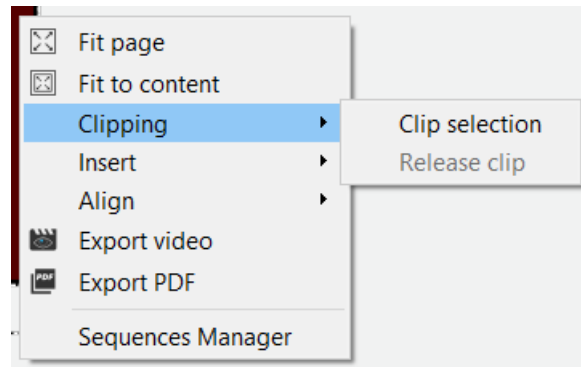

Figure 18.26: The context menu for clipping.
- Using the ellipse or rectangle drawing tool, easily clip any *iris* objects simply by drawing a shape over the area within the object to be clipped, selecting the objects and the drawn shape, and then pressing “C” on the keyboard. Selecting any clipped objects and pressing shift + “C” will unclip the objects. Objects can also be clipped by using the context menu shown in Fig. 18.26 when right clicking on two selected objects.